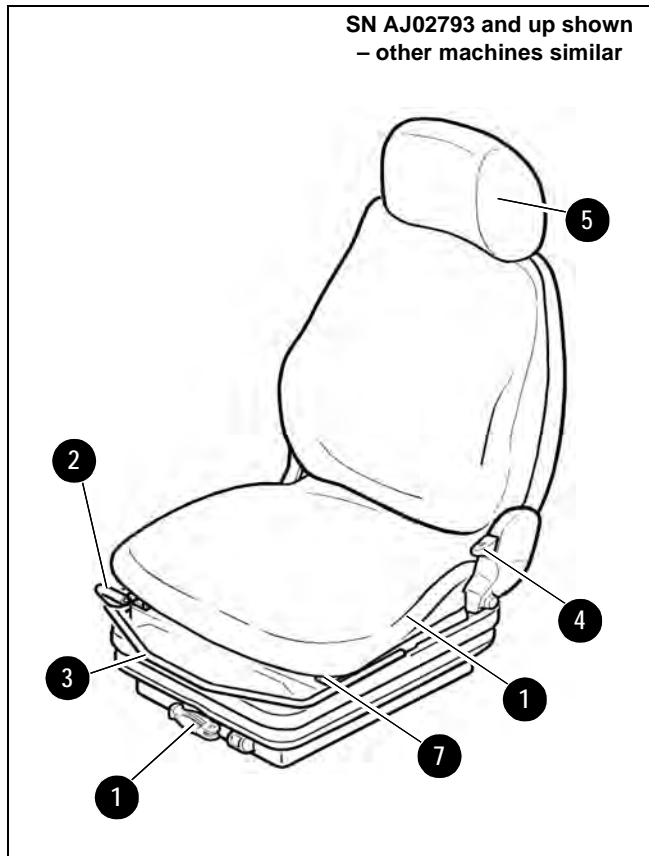

Figure 3-23 Seat Adjustment
Rotate the knob (1) to adjust the seat suspension for the operator's weight. An indicator on the front of the seat base shows the weight adjustment in kilograms (1 kg = 2.2 lbs.). Adjust the seat suspension correctly to ensure a comfortable ride. See Figure 3-23.